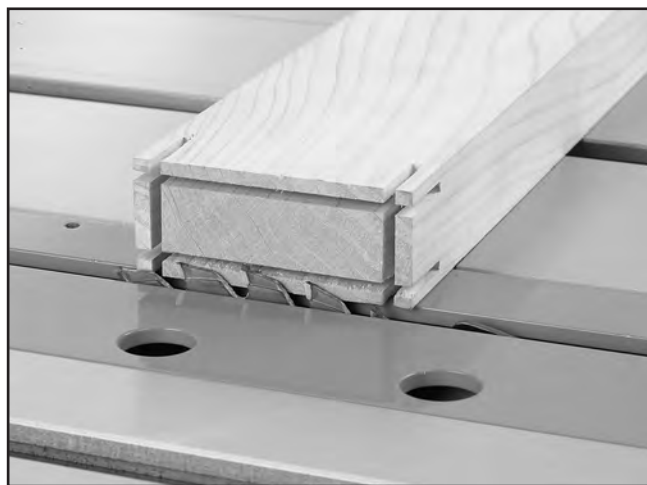

Figure 27. Blade height adjusted for shoulder cut.
3. Adjust the blade height to remove the waste pieces of the shoulders, as shown in **Figure 27**.